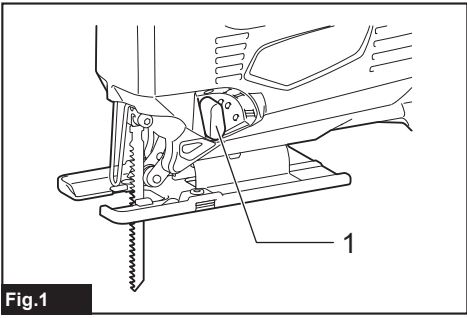

Fig.1
► **Fig.1:** 1. Cutting action changing lever